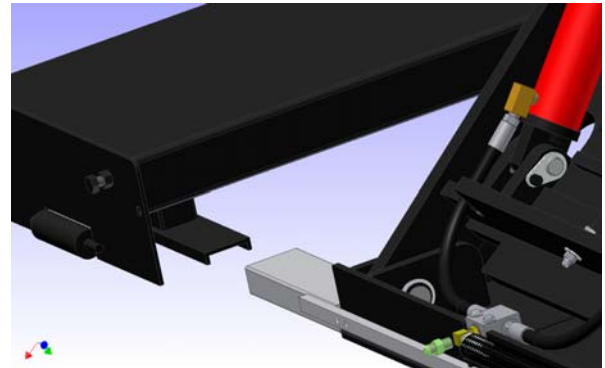
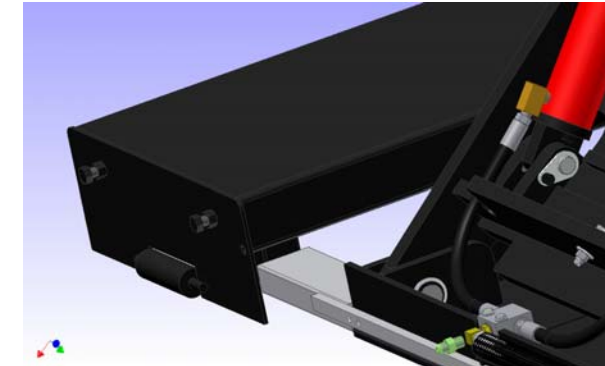

Figure 34
Figure 35
2. Each tread way has a piece of channel iron on the bottom. Select four tread ways without wheel stops and insert the channel iron of the tread ways completely into the locating brackets (see Figure 34 and Figure 35). Be certain the ends of the tread ways with out bolts are away from each other (see Figure 36).